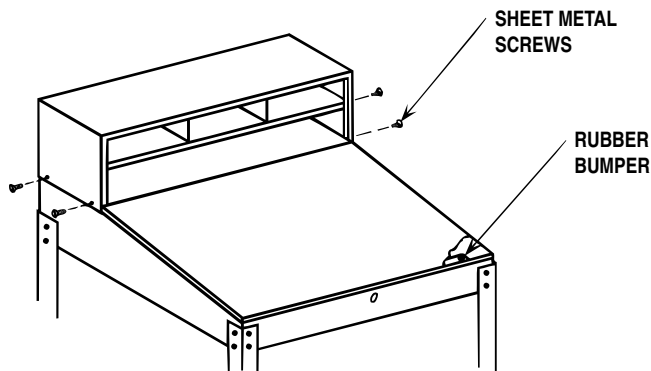

FIGURE 5
6. Position rack assembly (Item 2) on top of desk, align holes and fasten together with four (4) sheet metal screws (Item 8) as shown. See Figure 5. Tighten with a Phillips screwdriver.
7. Insert rubber bumpers (Item 9) into slots on the side edges of the desk. See Figure 5.